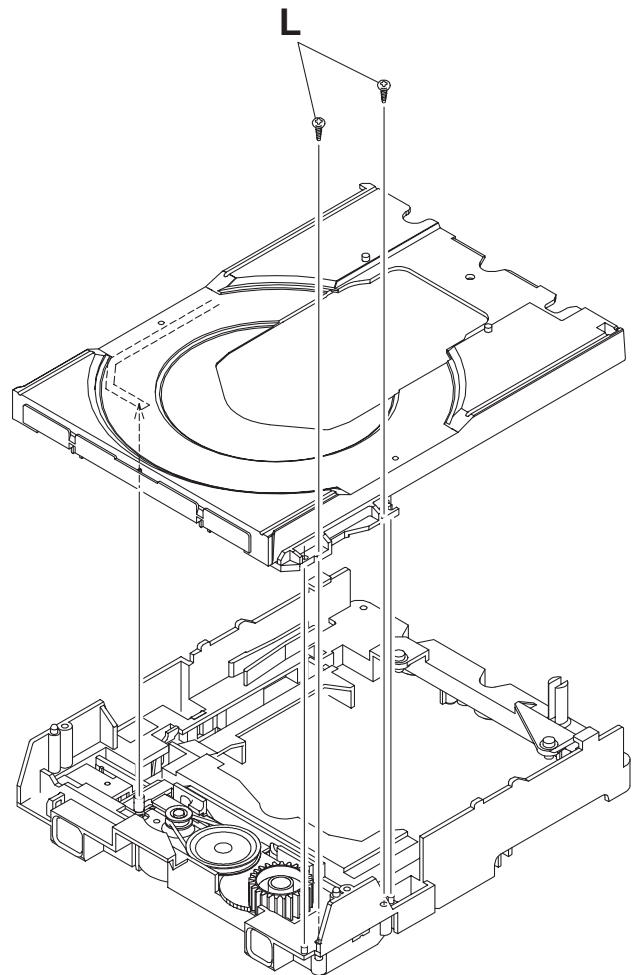

Fig.15
When attach the tray assembly, boss of loading sub assembly should attach to guide of bottom side at tray assembly. (See Fig.15)
- (3) Remove the two screws **L** attaching the shaft guide from top side. (See Fig.15)